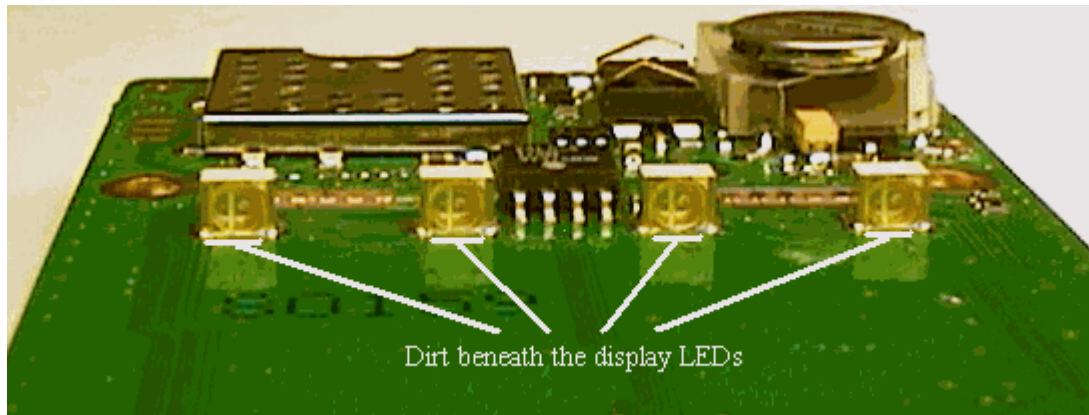

Fig. 9.5
- If the resistance is ~0 ohms at least one of them is shorted out. The simplest way of finding out which one of them is shorted out is by looking underneath the LED like in fig. 9.5. You can usually see dirt beneath the LED that is causing the short circuit.